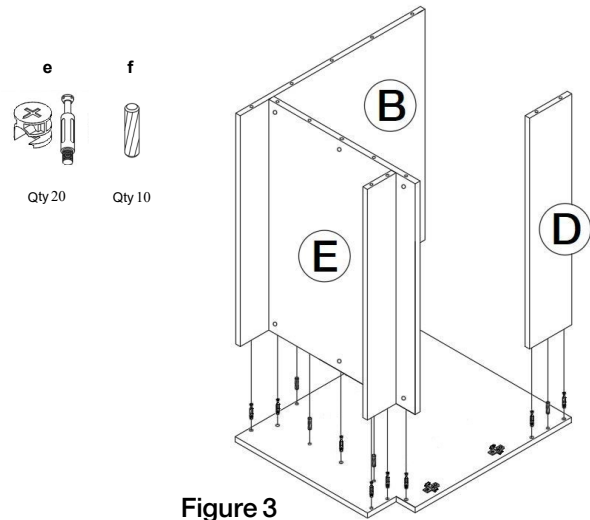

Figure 3
3. Install metal male cam locks (e) into designated holes on side panel (C) and bottom panel (E). Use screwdriver to tighten. Install the wooden dowels (f) into designated holes. (Figure 3)
4. Install the toe kick (F) onto bottom panel (E). (Figure 3)
5. Install front brace (D) onto the right side panel (C). (Figure 3)